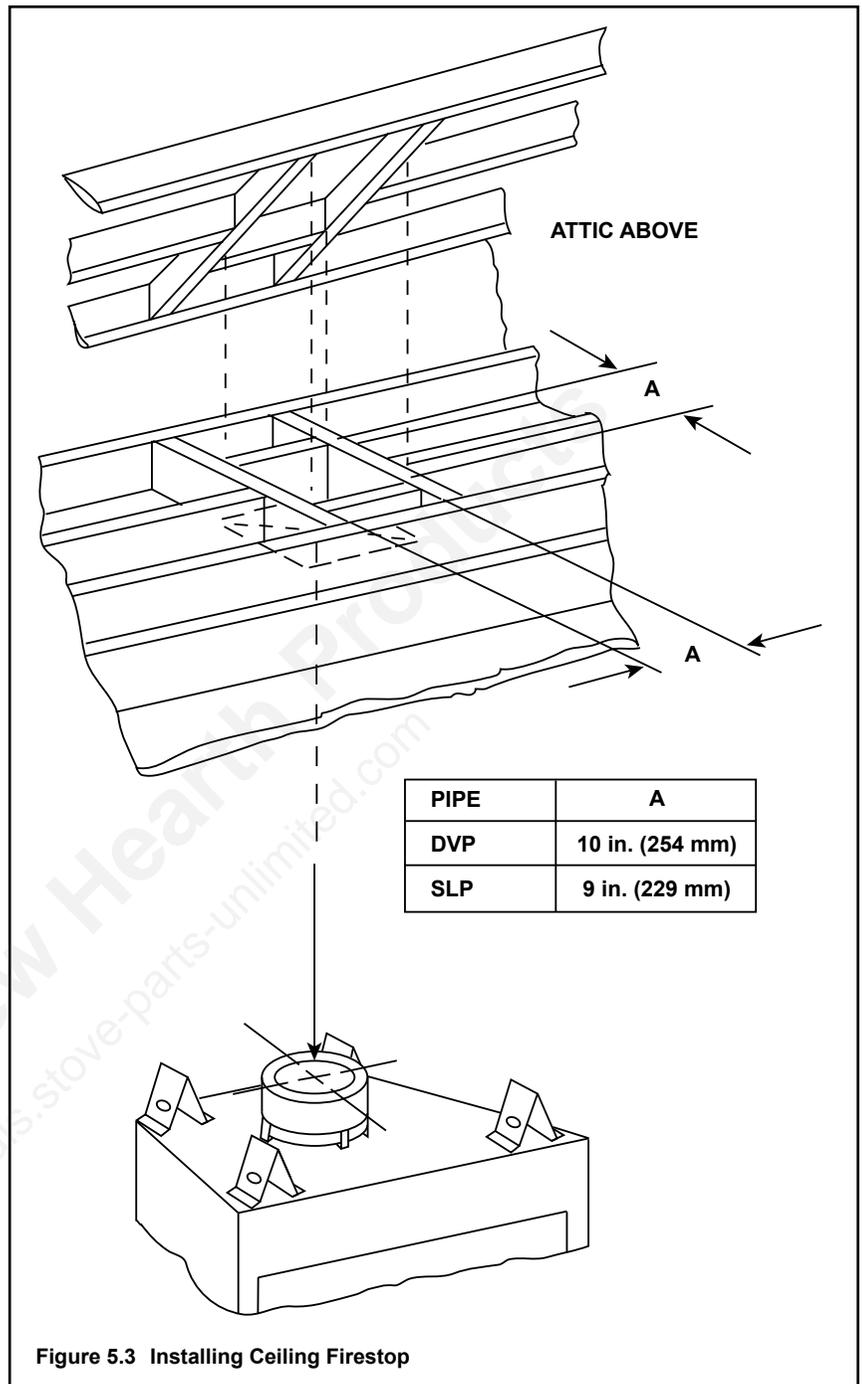

Figure 5.3 Installing Ceiling Firestop
- **DVP pipe only** - Frame an opening 10 in. by 10 in. (254 mm by 254 mm) whenever the vent penetrates a ceiling/floor. See Figure 5.3.
- **SLP pipe only** - Frame opening 9 in. x 9 in. (229 mm x 229 mm) whenever the vent penetrates a ceiling/floor. See Figure 5.3.